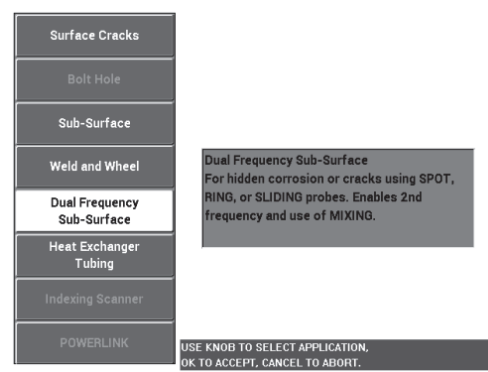

Figure 5-115 The Dual Frequency Sub-Surface application
2. Press the ADV SETUP menu key () once, and select **APPL SELECT** (A key) to open the application selection menu. Select **Dual Frequency Sub-Surface** with the knob, then press  to accept (see Figure 5-115 on page 209).